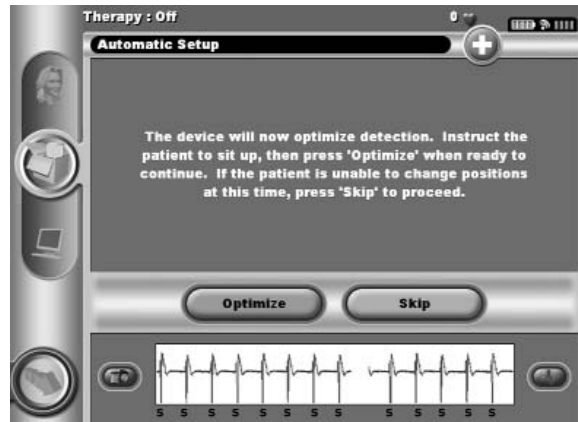

Figure 28: Automatic Setup screen
- The Automatic Setup Sensing Optimization screen will be displayed. The programmer will display a message requesting that the patient sit up; however, this process can be omitted during the implantation procedure by selecting the Skip button (Figure 28).